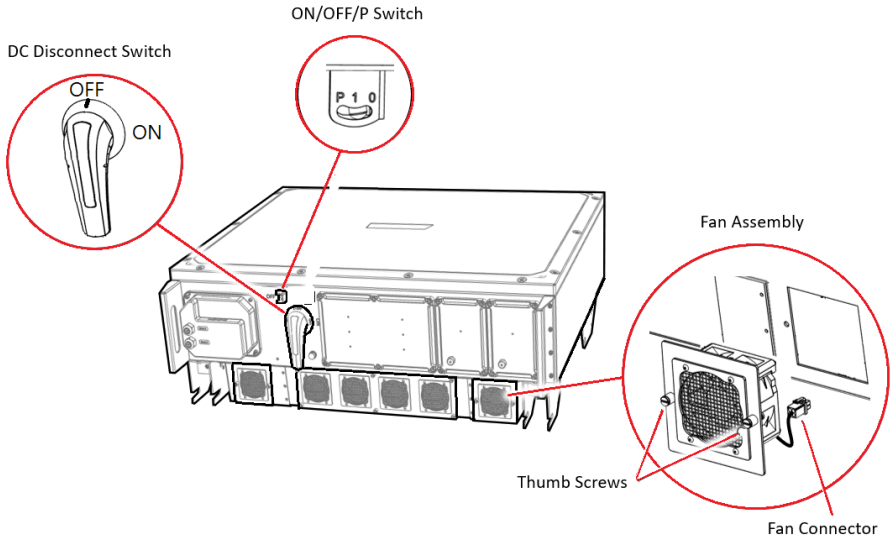

Figure 32: Removing the Fans
4. Release the two Thumb Screws securing the Fan Assembly to the inverter (see *Figure 32*).
10. Turn ON(I) the ON/OFF/P Switch of the inverter.